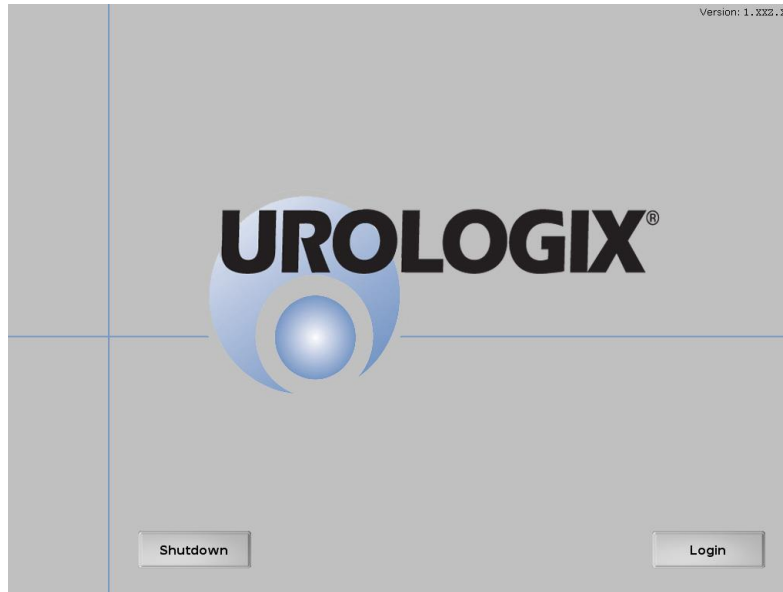

Figure 3-9. Login Screen
1. Press the **Login** button (Figure 3-9). The User Login window appears (Figure 3-10).
9. Press the **Login** button (Figure 3-9). The User Login window appears (Figure 3-12).